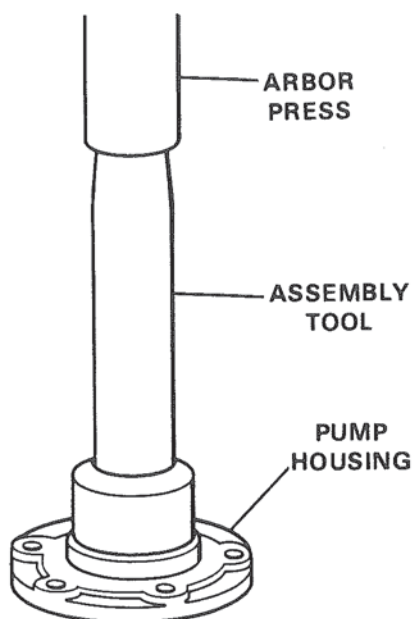

Figure 106. Installing Oil Seal.
3. Using an arbor press and suitable tool, press seal into housing until front face of seal is flush with front face of pump housing. Figure 106.